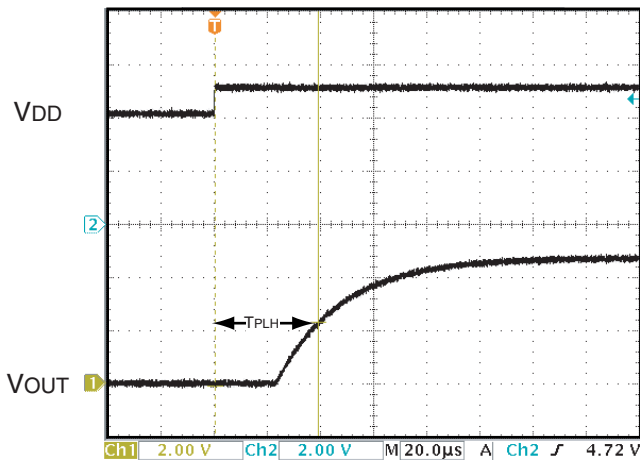

Fig.15
- ① If the VDD is equal to or lower than the operating limit voltage (VOPL) at power-up, the output is inconsistent.
- ② When the VDD is equal to or lower than the reset release voltage ($V_s + \Delta V_s$), $V_{OUT} = L$.
- ③ When VDD exceeds the Reset Release Voltage, VOUT turns H with a delay of TPLH. See Fig. 15 and 17 for the reference waveform.
- ④ If the VDD goes below the detection (V_s) at power-down or instantaneous power failure, VOUT turns L with a delay of TPLH.